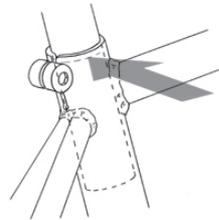
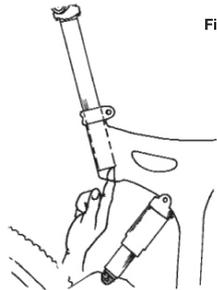

Fig. 4
Fig. 5
Once the saddle is at the correct height, make sure that the seatpost does not project from the frame beyond its "Minimum Insertion" mark (fig. 4).
If your bike has an interrupted seat tube, as is the case on some bikes with rear suspension, you must also make sure that the seat post is far enough into the frame so that you can touch it through the bottom of the interrupted seat tube with the tip of your finger, without inserting your finger beyond its first knuckle (see fig. 5). Ensure that any seat post projecting from the interrupted seat tube does not interfere with the free movement of the rear suspension.
**WARNING: If your seat post projects from the frame beyond the Minimum Insertion mark (see fig. 4) or you cannot touch the bottom of the seat post through the bottom of the interrupted seat tube with the tip of your finger without inserting your finger beyond its first knuckle (see fig. 5), the seat post may break, which could cause you to lose control and fall.**